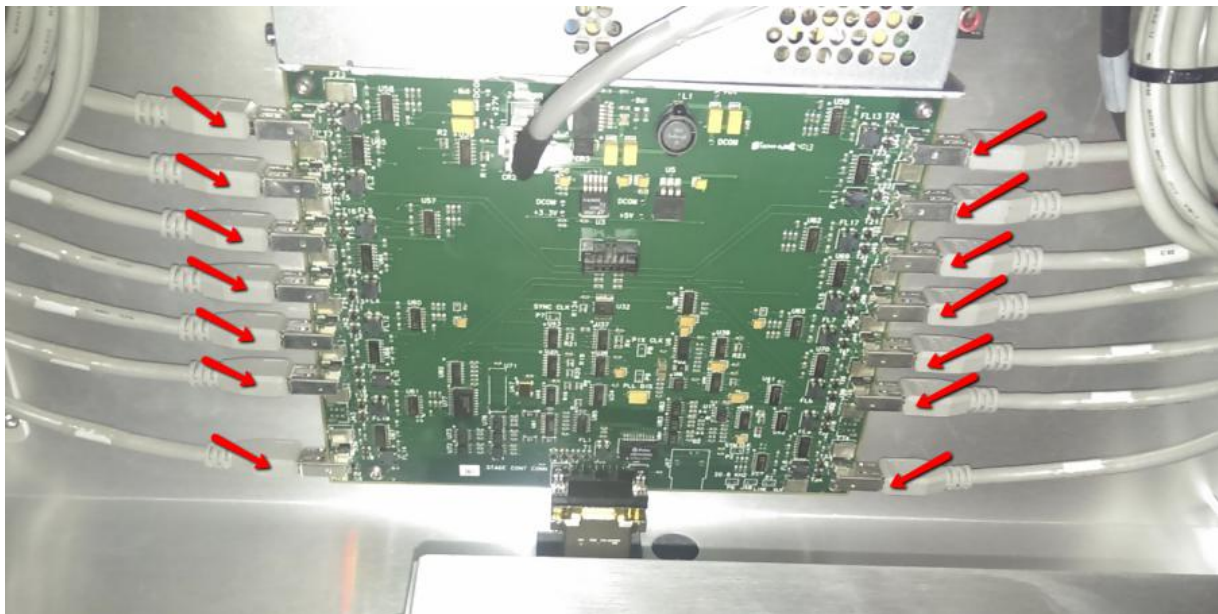

Figure 32 Fire Wire connection
15. Connect 14 x Fire Wires into Trigger Board Fire Wire Port as below Figure 32